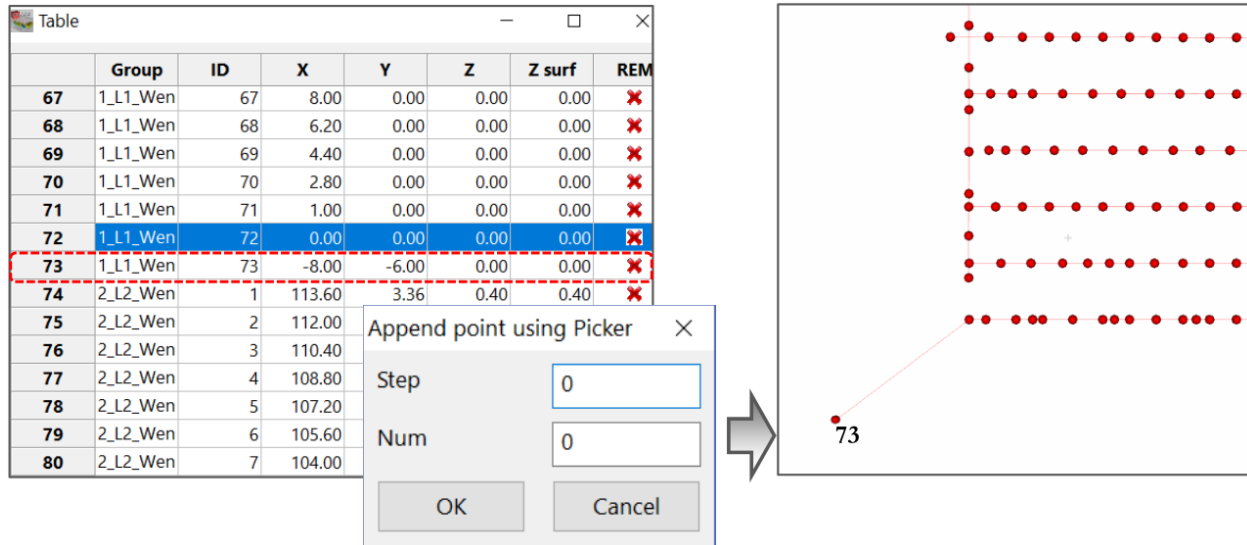

Figure 18.10: One electrode is added to the scene at the picker point coordinates
- **Step=0; Num=0** (default): only one electrode is inserted at the position determined by the picker point (Figure 18.10).